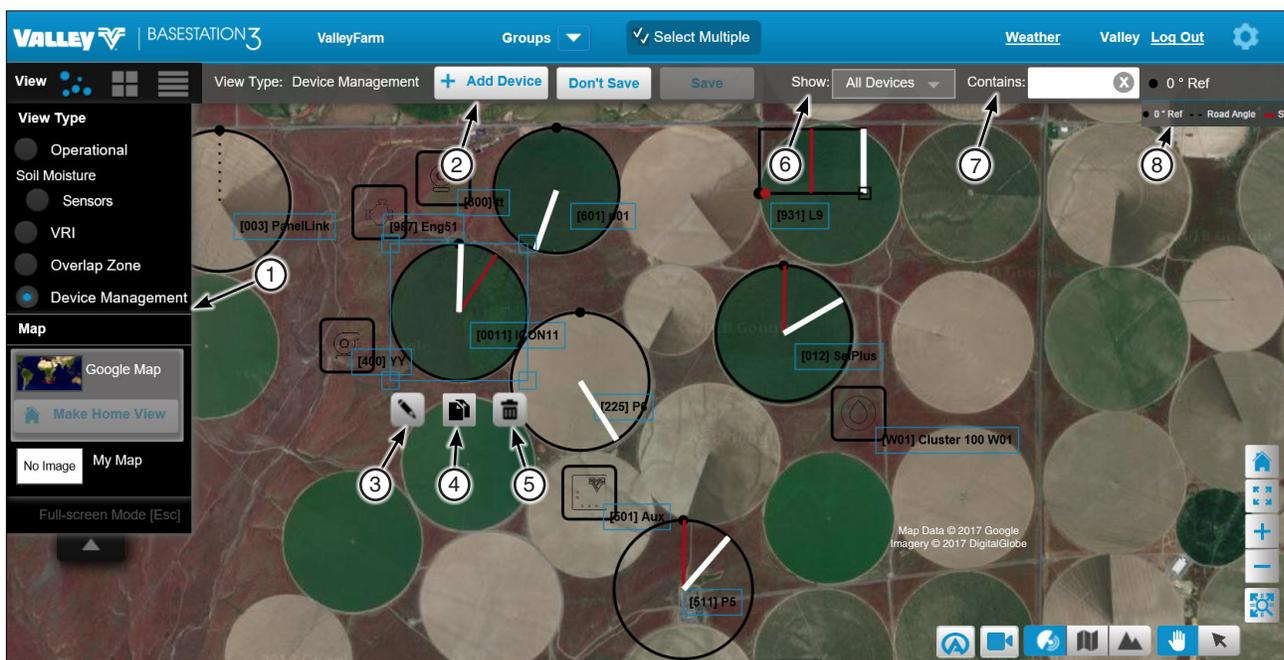

Figure 37-1
1. **In Map View, when Device Management is selected** as the View Type, devices can be added, changed, copied, deleted and customized to match field size and position on the map image. This includes re-sizing any device on the map or changing a device position or label position. Selecting this View Type does not change the default view type set in Preferences. See Figure 37-1.